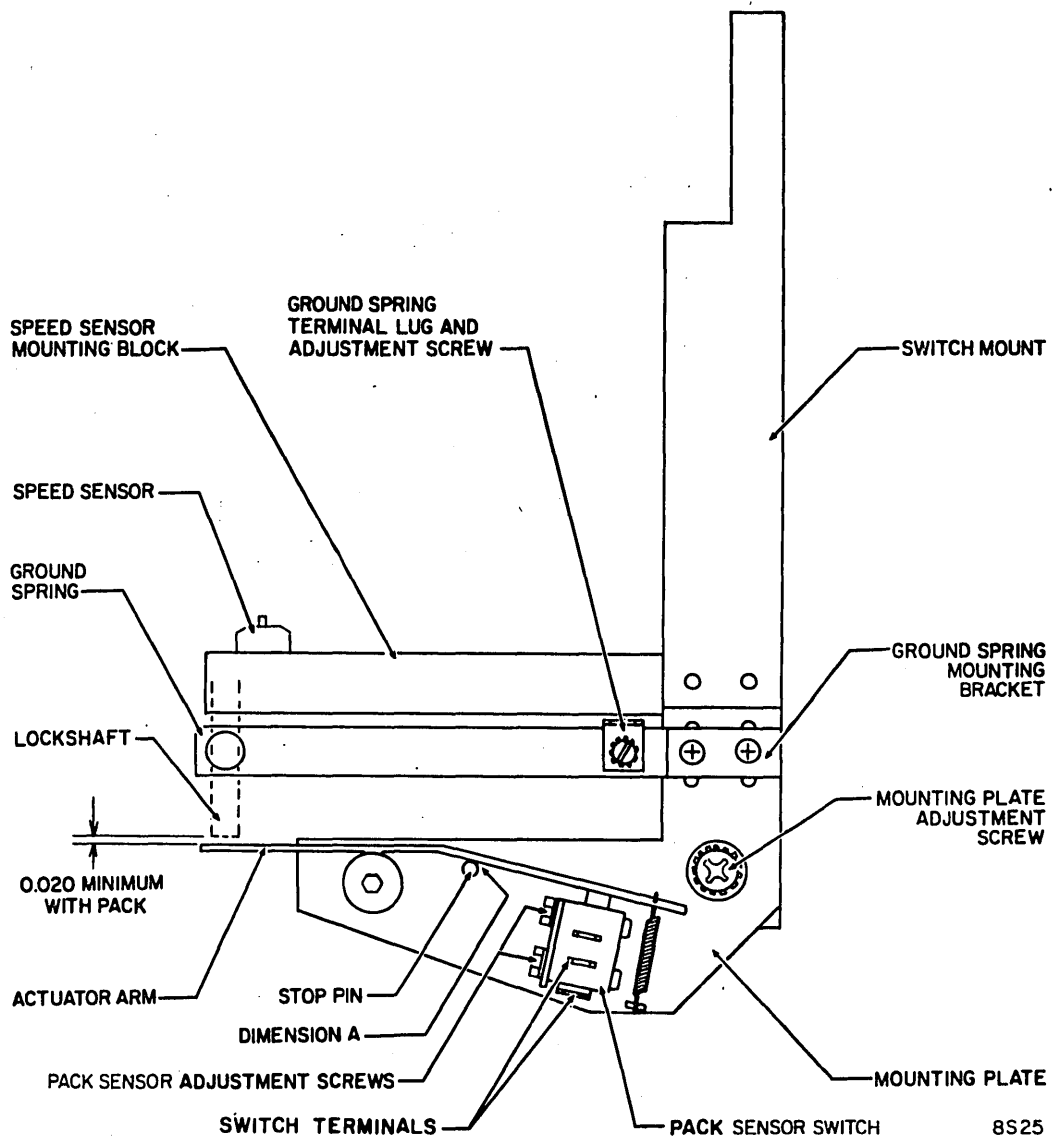

Figure 3-32. Pack Sensor Assembly
5. Identify pack sensor switch leadwires (Figure 3-32). Disconnect leadwires at switch.
5. Identify pack sensor switch leadwires (Figure 3-32). Disconnect wires at switch terminals.
6. Dimension between actuator arm and lockshaft must be as specified in Figure 3-32. If dimension is as specified, go to step 10. If adjustment is required, go to step 7.
7. Loosen mounting plate adjustment screw (Figure 3-32).
9. Position mounting plate until dimension between actuator arm and lockshaft is as specified in Figure 3-32. Tighten screws.
10. Connect a multimeter (set to Rx1) to pack sensor switch terminals (Figure 3-32). Meter must indicate 0 ohms. If correct go to step 12, if not go to step 11.
12. Insert an .011 inch thick feeler gage between actuator arm and stop pin (dimension A of Figure 3-32).
5. Identify pack sensor switch leadwires. Disconnect wires at switch (Figure 3-32).
8. Remove mounting plate adjustment screw (Figure 3-32). Remove mounting plate.
13. Position mounting plate on switch mount as shown in Figure 3-32 and loosely secure plate to mount with mounting plate adjustment screw.
14. Position ground spring mounting block on switch mounting block (Figure 3-32) and loosely secure block with two screws.